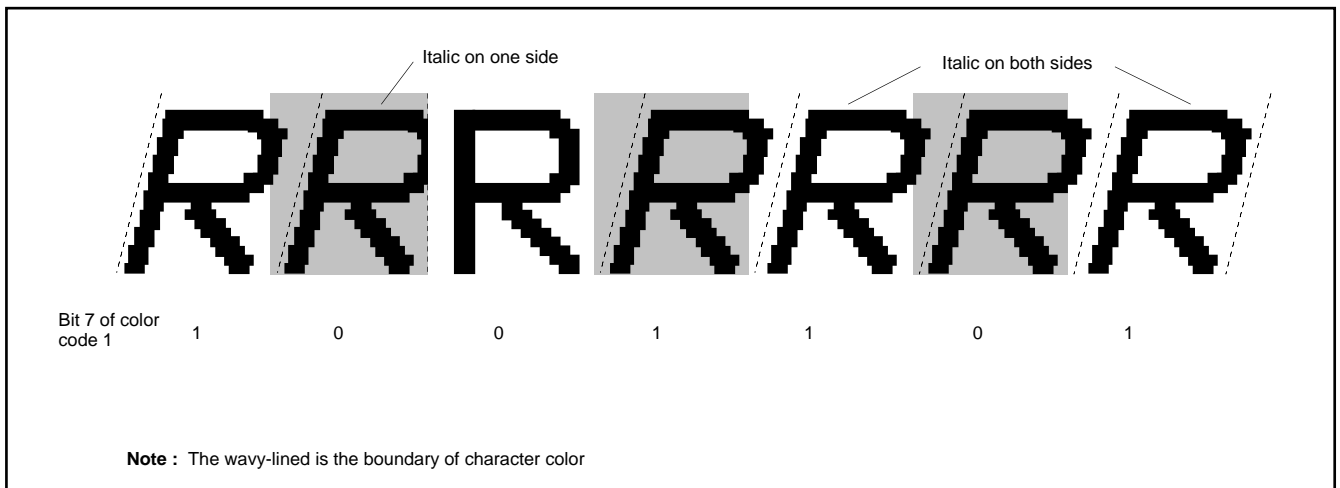

Fig. 69. Example of italic display
- 3: The boundary of character color is displayed in italic. However, the boundary of character background color is not affected by the italic (refer to Figure 69).
- 4: The adjacent character (one side or both side) to an italic character is displayed in italic even when the character is not specified to display in italic (refer to Figure 69).